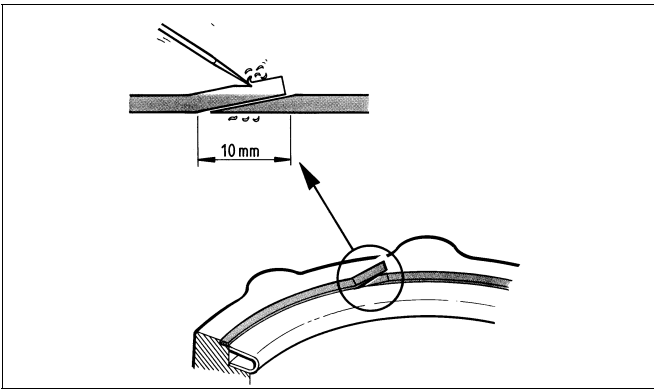

Fig. 11. Mounting the body seal
- ❑ Mount a new, self-adhesive body seal (19) into the body. The surface must be clean and free of grease. Handle the ends of the seal according to Fig. 11.
- ❑ Centre the seat ring (4) carefully into its groove and turn the disc to maintain light contact with the seat.
- ❑ Mount the clamp ring and tighten the screws (27) lightly.
- ❑ Tighten the screws (27) evenly. An unevenly tightened flange may damage the seat ring. The screw heads must be below the flange surface.